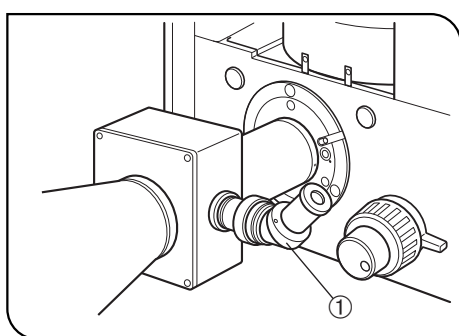

Fig. 73
☉ If the viewfinder of the photomicrographic system mounted on the side port is hard to view, it is recommended to use the optional U-FTV V-shaped focusing telescope ①. (Fig. 73)
- Slide the top portion of the U-FTV ① up or down until the photo masks are brought into focus. (Fig. 73)